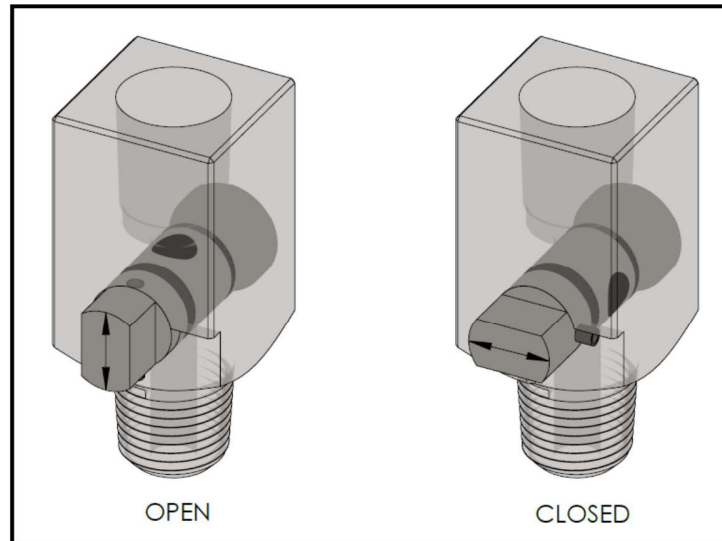

Figure 2
4. Close all vent ports and remove all the pipe plugs from vents and sealant injection ports. Figure 2 shows the correct orientation for closed and open sealant injection ports if provided by PLIDCO with the fitting.